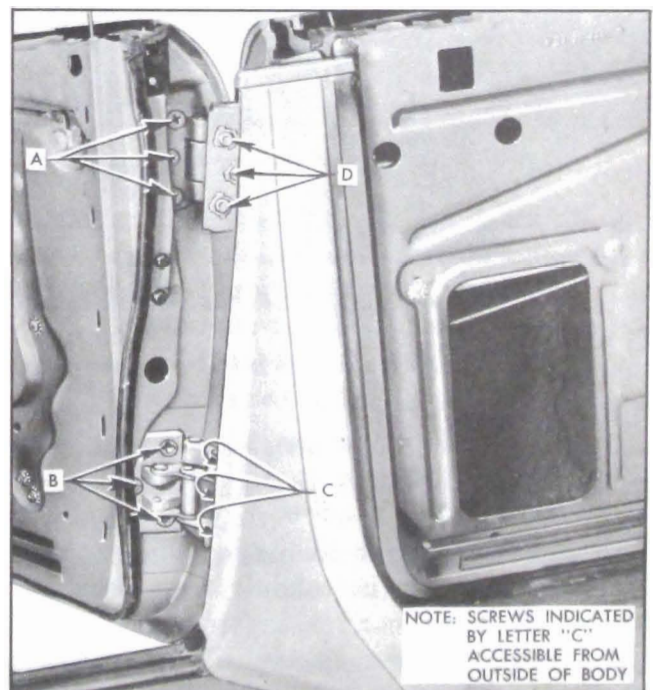

Figure 13-52—Rear Door Hinges
lower hinge to center pillar attaching screws, Figure 13-52.
1. For "in and out" or "up and down" adjustments loosen hinge to door pillar attaching screws, Figure 13-52; adjust door as required and tighten screws.
2. To adjust the door "fore and aft" loosen hinge to center pillar attaching screws, Fig. 13-52, adjust door as required and tighten screws and bolts.